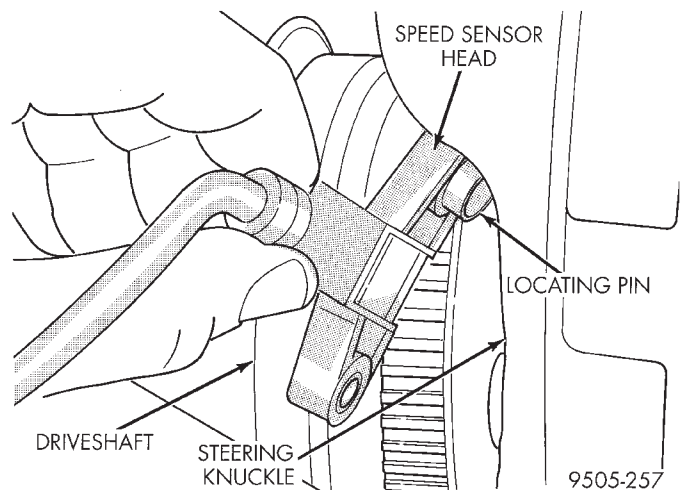

**Fig. 36 Installing Speed Sensor Head In Steering Knuckle**
(3) Install the speed sensor cable routing bracket on the steering knuckle. Install and tighten routing bracket mounting bolt to a torque of 12 N·m (105 in. lbs.)
(4) Install speed sensor head on steering knuckle (Fig. 36). When installing speed sensor head on steering knuckle, apply a small amount of grease on speed sensor locating pin (Fig. 36). Use Mopar, Multi-Purpose Grease or an equivalent on speed sensor head locating pin. Install the speed sensor head attaching screw and tighten to a torque of 6 N·m (55 in. lbs.).